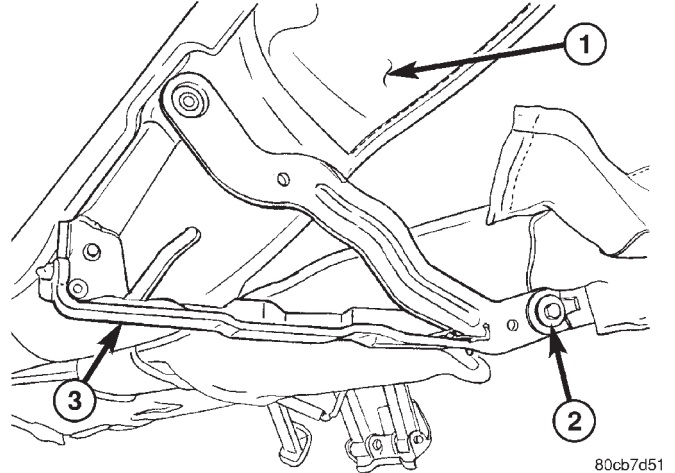
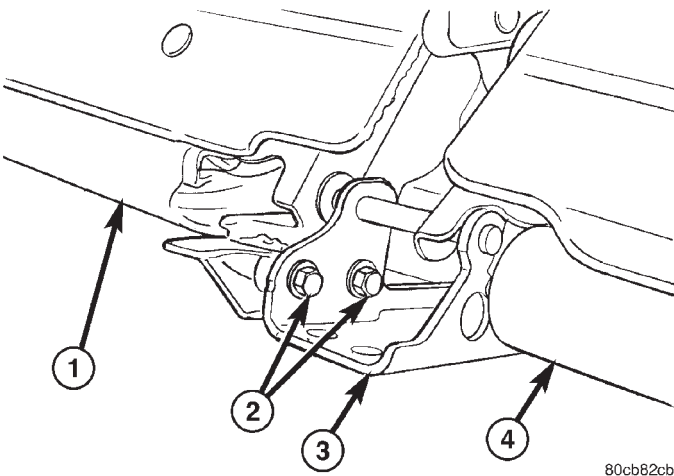

Fig. 8 SEAT BACK HINGE
Fig. 7 CENTER SEAT BACK HINGE
- (3) Remove the center seat back hinge bolts and separate the rear seat assembly. (Fig. 7)
- (4) Release the clips and remove the seat back hinge covers.
- (5) Lift the seat cushion cover and remove the hinge bolts. (Fig. 8)
- (6) Remove the seat back.